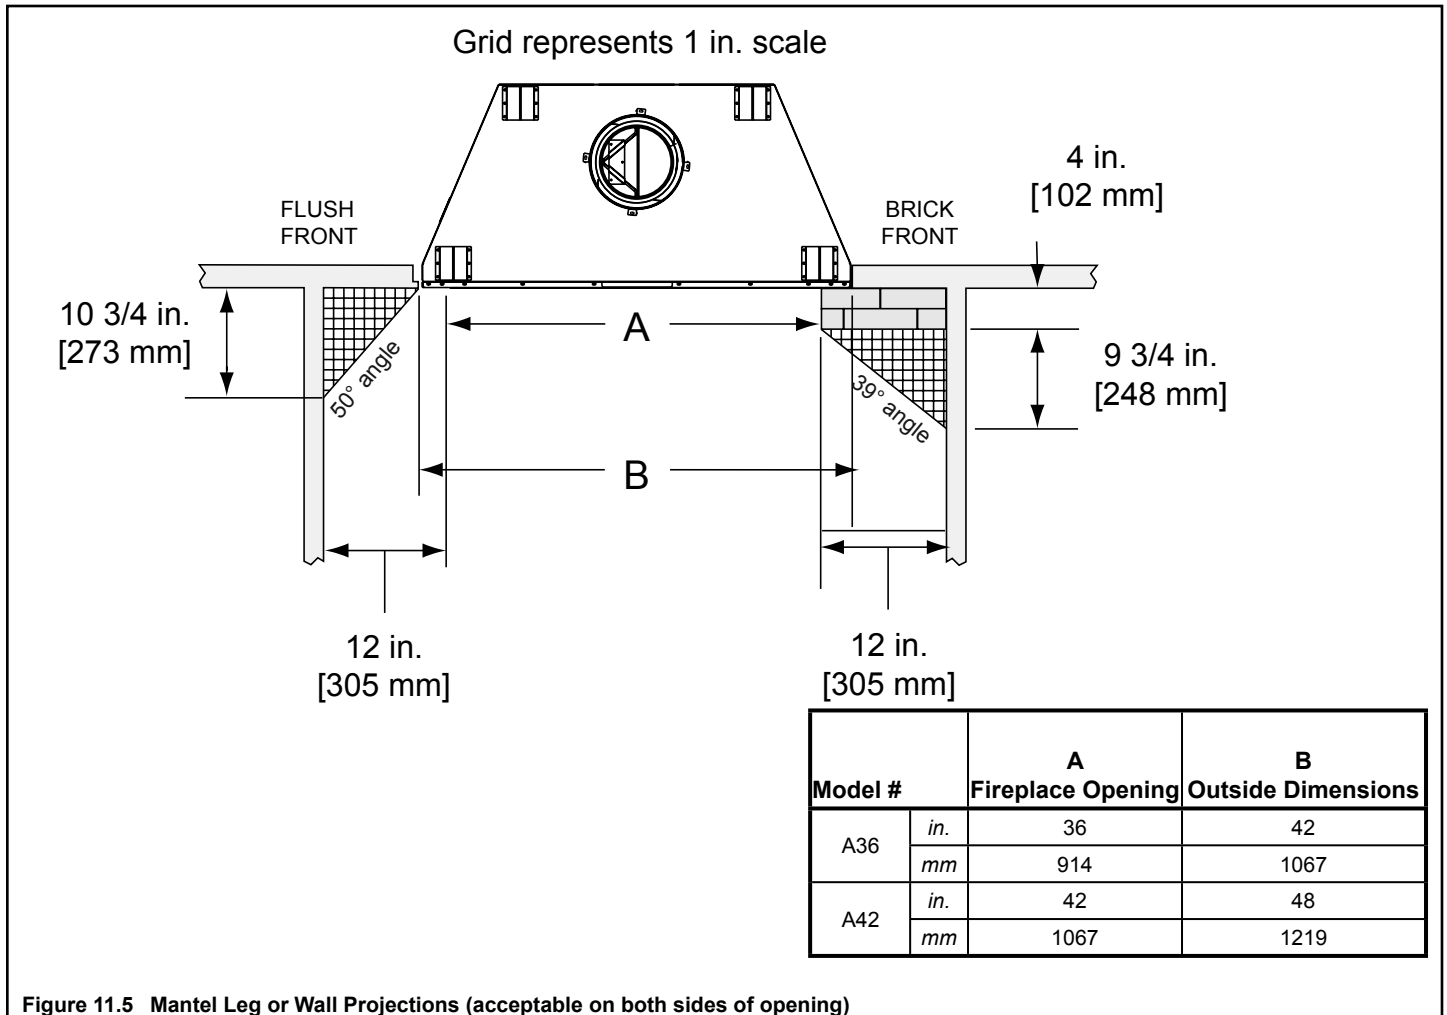

Figure 11.5 Mantel Leg or Wall Projections (acceptable on both sides of opening)
- Combustible or noncombustible mantel legs, surrounds and stub walls may be constructed per Figure 11.5.